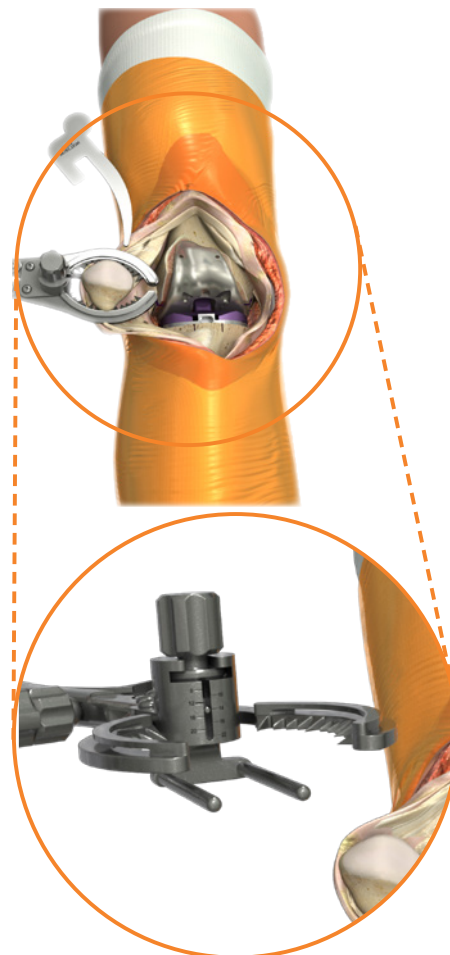

Figure 25a
4. Subtract 9mm from this measured thickness. This is the amount of bone that will remain after resection (Figure 25a).
5. Set the Patella Resection guide for the amount of bone that should remain after resection. The guide is set at this level by turning the knurled knob (Figure 25a).